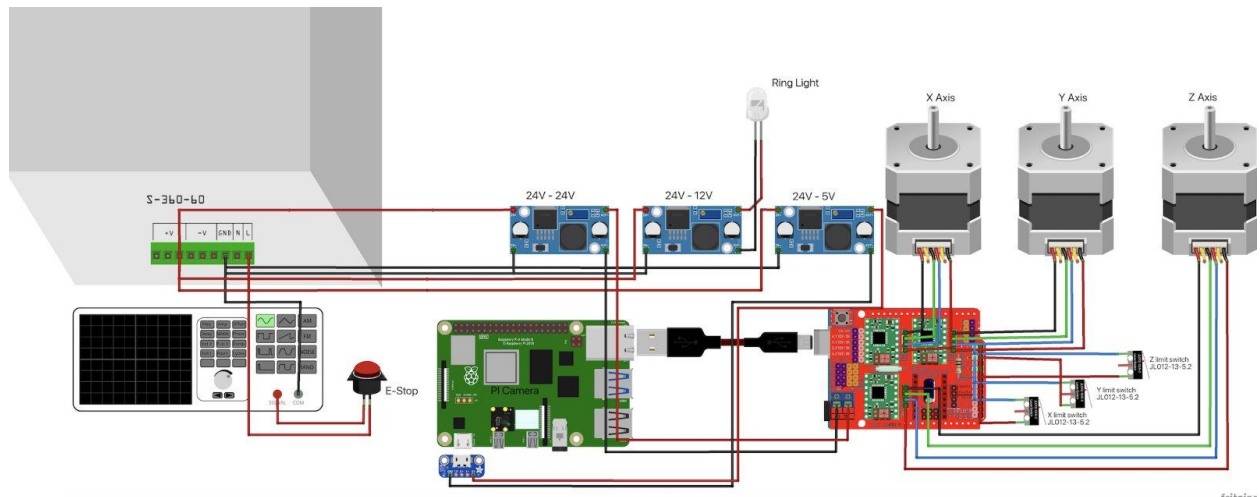

Figure 26 - Electrical component connections.
Figure 26 below shows a representation of the electrical components involved in this project. Since the power supply is rated at 24V and 14.6 A (Max), the voltage needs to be converted to 3 levels to accommodate the CNC shield (24V), ring light (12V) and Raspberry Pi (5V), respectively. Furthermore, stepper motors and limit switches (NO) are connected to the CNC shield via their designated pins. An emergency stop is designed to cut off all power of the electrical system at the Live end of the AC power input. Arduino Uno is powered by the Raspberry Pi via a serial connection (USB-A to USB-B). In addition, there is a STOP button on the PC GUI to stop all actions without turning the power off. It is used for quick testing while saving coordinates without the need for homing. Note that the AC generator represents the 110V wall outlet and the power supply is not the exact model, but the same connection regardless.